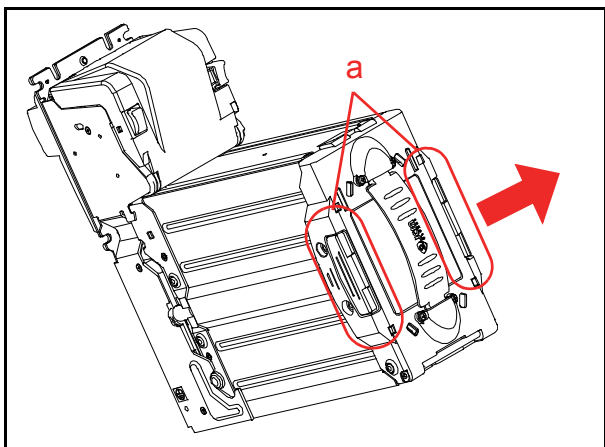

Figure 22 JAM Clear 3
3. When a jammed Banknote is not visible, grab the Cash Box Latches (Figure 22 a) located on both sides of the rear Cash Box and pull the Cash Box out of the Frame Housing.